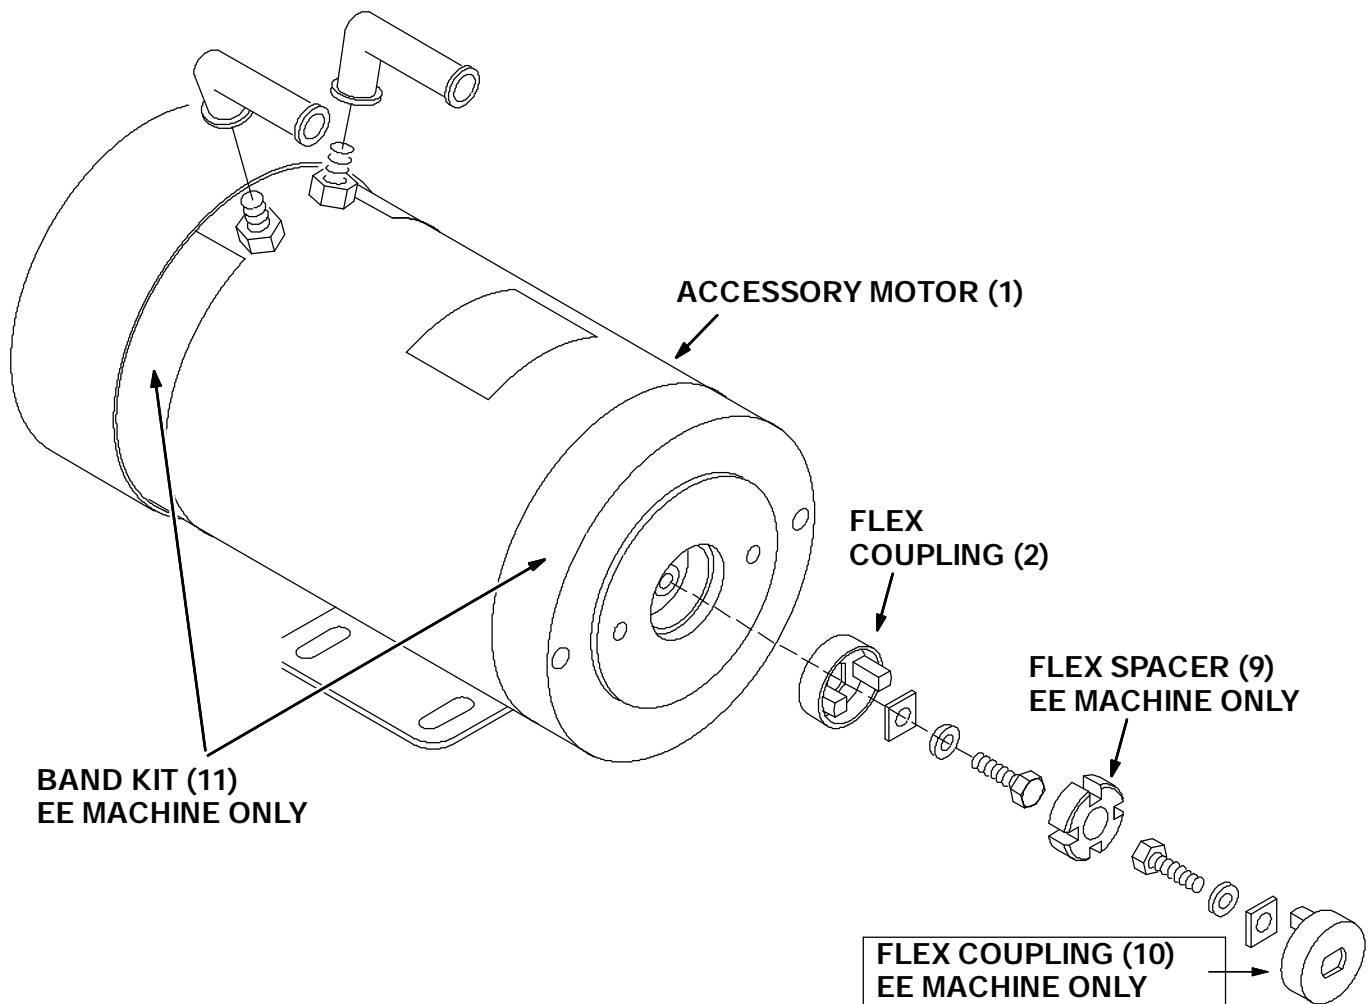

FIG. 2 - EE MACHINE COUPLING ASSEMBLY
3. **If your machine is an EE version-** install the new pump (4) on the new pump adaptor (7). Place a small amount of adhesive (6) on the threads of the two pump mount screws. Install the screws and tighten to 18 - 24 Nm (15 - 20 ft lb). (Refer to FIG. 2)
5. **If your machine is an EE version-** - install the new flex coupling (10) and flex spacer (9) on the shaft of the new pump (4). Position the coupling so it extends slightly past the end of the pump shaft. Hand tighten the set screws firmly. (Refer to FIG. 2)
6. **If your machine is an EE version-** - install the two bands in the new band kit (11) on the new electric motor (1). (Refer to FIG. 2)